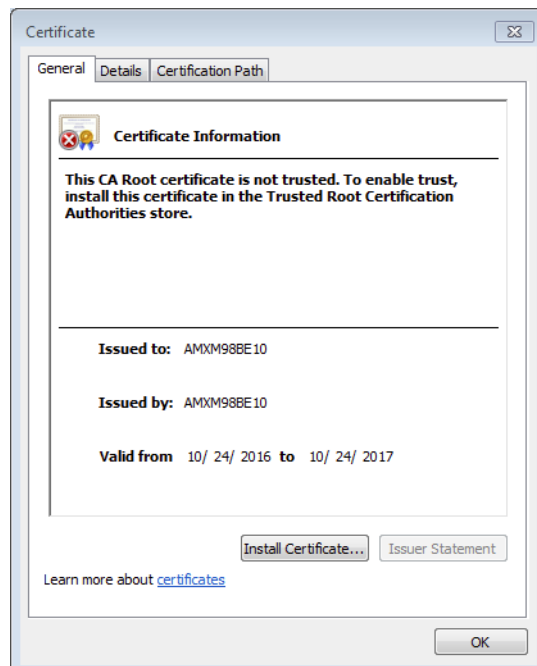

FIG. 63 Certificate dialog
- Click **View Certificates** in the pop-up. The certificate information for the self-signed certificate on the NX appears (FIG. 63).